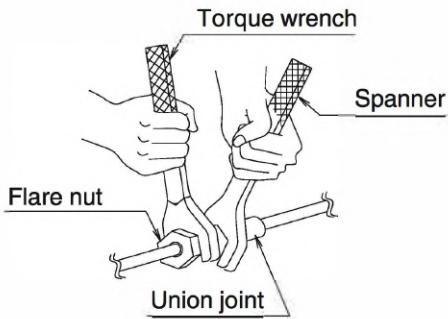

Fig. 6
- When connecting the pipings to the air conditioner, make sure to use a spanner and a torque wrench as shown in Fig. 6.